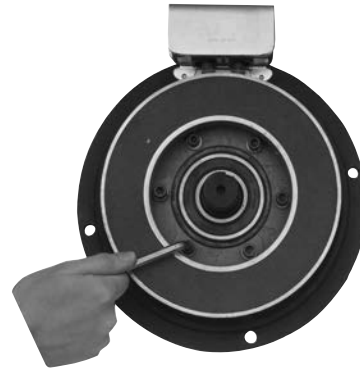

Figure 2
3. Once the mounting surface has been prepared, the magnet is bolted in place with capscrews and lockwashers. (See Figure 2.)